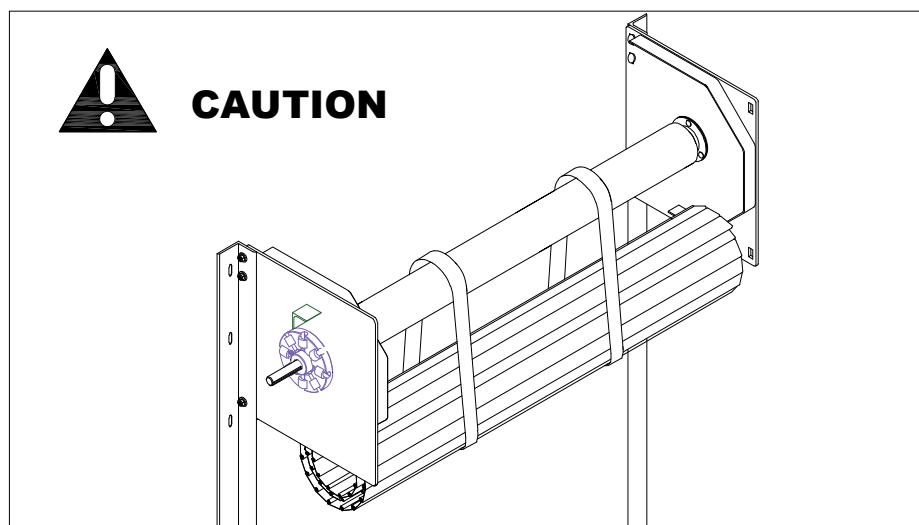

FIGURE 13
- b. Center the factory rolled curtain assembly between the guides as shown in Figure 13.